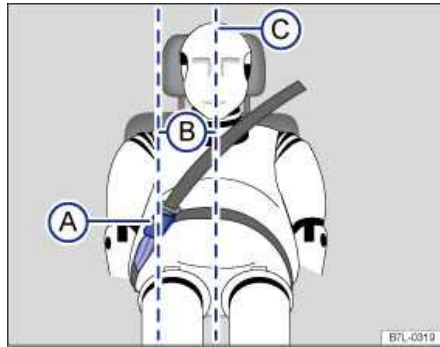

Fig. 58 Positioning of the safety belt extender.
Key to fig. 58:
- Never use a safety belt extender if the distance (B) between the front edge of the safety belt extender buckle (A) and the centerline of the person using the safety belt extender ⇒ fig. 58 (C) is less than 6 inches (15 cm).